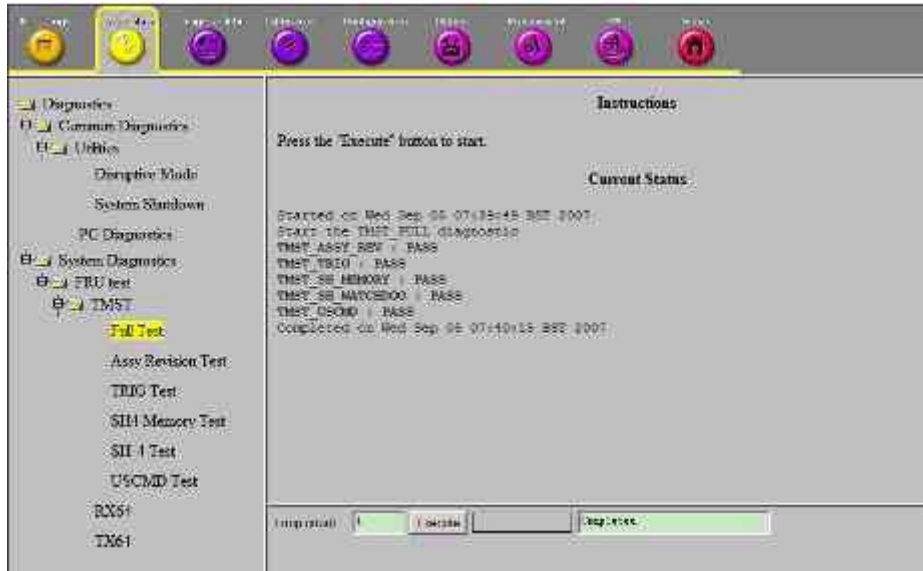

Figure 7-31 Remote Diagnostic successful
- 5.) Service can do Remote Diagnostics successfully. See Figure 7-31 on page 7-26